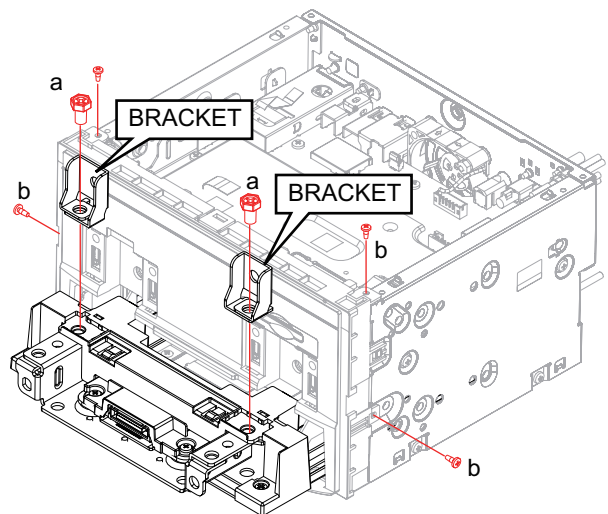

Fig.12
- (4) Pull the panel arm toward you, remove the 2 screws (a), and remove the BRACKET. (See Fig.12)
- (5) Remove the 4 screws (b). (See Fig.12)